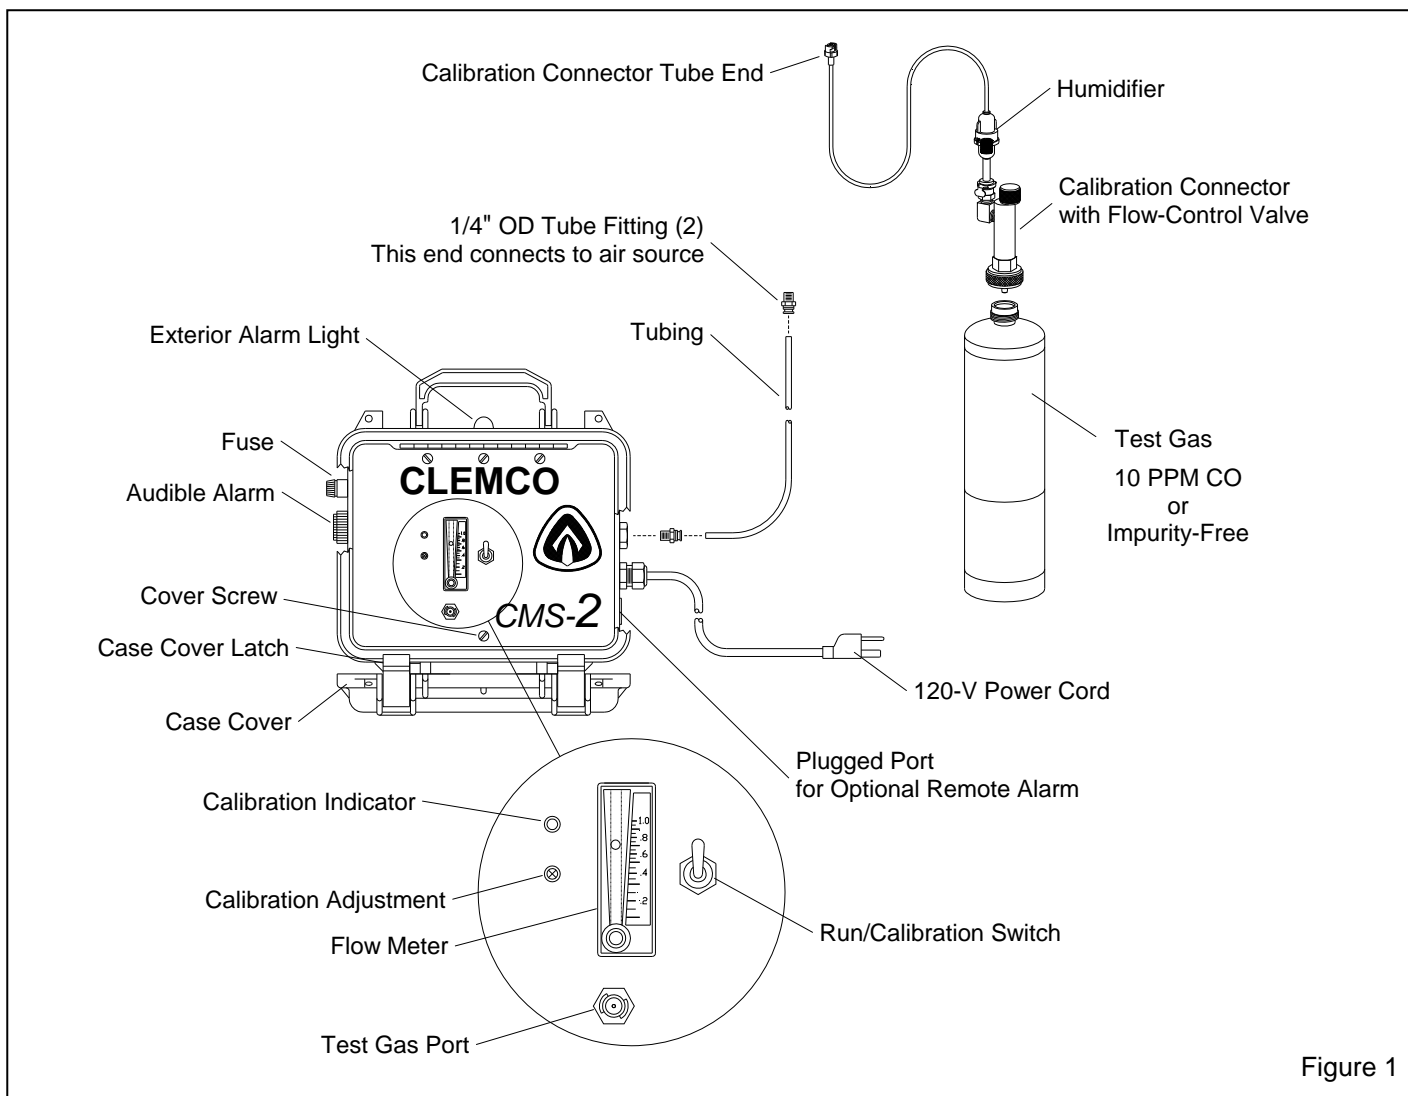

Figure 1
1.3.1 The primary components of the monitor are shown in Figure 1. The instrumentation is enclosed in a corrosion resistant polypropylene carrying case. The monitor system includes the instrument case, ten feet of 1/8" ID x 1/4" OD tubing with fittings, a cylinder of 10 PPM (parts per million) test gas, calibration connector which includes the connector valve, tubing and humidifier.
2.3.3 Loosen the cover screw located in the center of the lower edge of the faceplate. Refer to Figure 1.